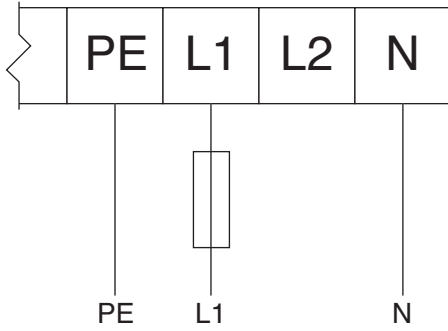

Figure 10 120 Vac 1 Phase Input/240 Vac 3 Phase Output
3. Connect the power supply wires to the power terminals in the VFD box, following all local codes and regulations. See Table 1 and Figs. 10–14, as applicable for your system.